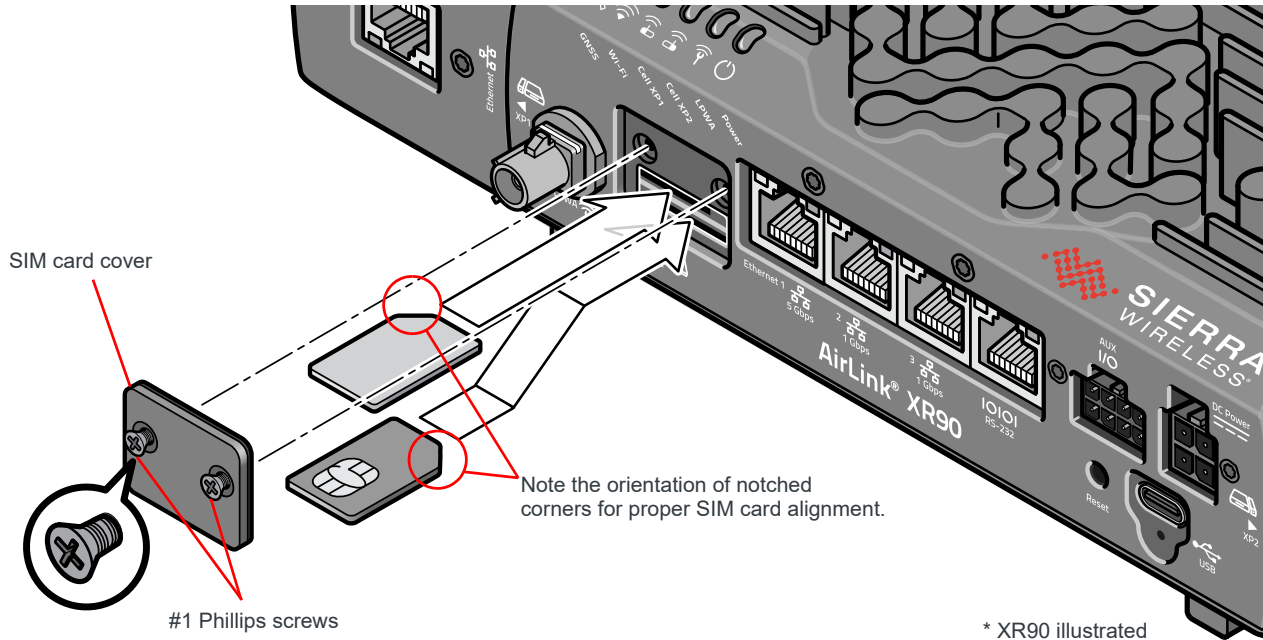

Figure 2-3: Installing the SIM Cards
The XR router has two mini-SIM (2FF) card slots located behind a removable plate on the front of the XR router as shown in Figure 2-3 on page 16. By default, the SIMs correspond to the cellular modules as follows:
2. Orient the SIM card(s), as shown in Figure 2-3. (Upper SIM—Gold contacts face-down; Lower SIM—Gold contacts face-up)